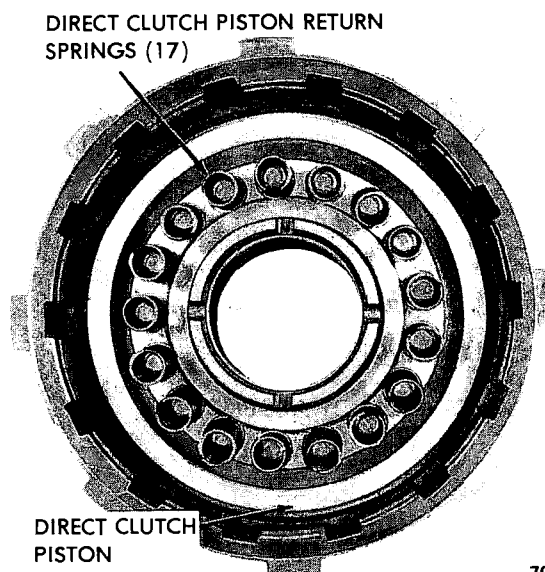

Figure 7C-104
8. Remove direct clutch piston return spring seat retaining ring and spring seat by using Tools J- 2590-3, J-2590-5, and snap ring pliers. See Figure 7C- 103.